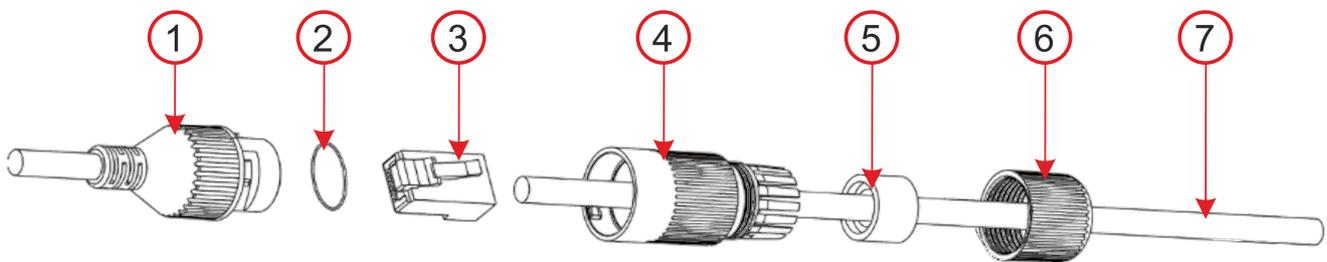

Fig. 4: How to fold the waterproof LAN connector cover
3. Drill holes in the selected location with a \varnothing 6mm drill bit and fix with dowels from the package. Open the mounting base by removing the screws. Depending on the selected cable feed method – centre or side (7), prepare a hole for running the cables. In case of side installation use the cable grommet (3, 4, 5) for the selected hole – (the cable grommet is included in the packing), use the blanking plug (6) for the unused one.
4. Pull the LAN cable through the back of the socket. Screw the back of the socket onto the selected place on the wall with the three screws provided in the packaging and crimp the RJ-45 connector with crimping pliers (see Fig. 4).
5. Plug the RJ-45 connector to LAN connector. Secure the connection with the waterproof cover (5) with the bayonet cap (3) and screw it tight. If the utilized router or switch does not provide PoE (power over Ethernet), connect the camera power connector to an external 12 V DC power supply (min. 0.5 A).